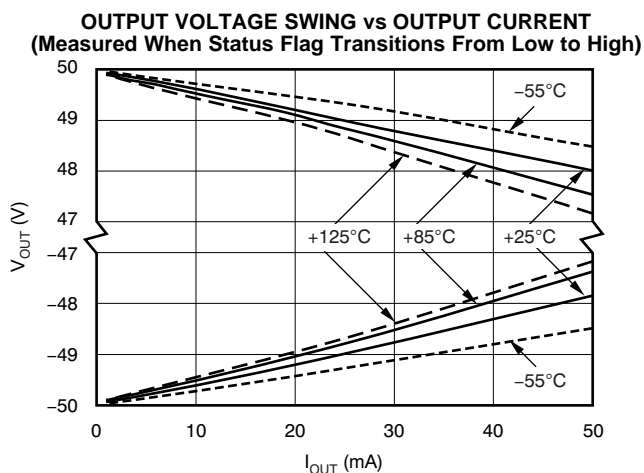
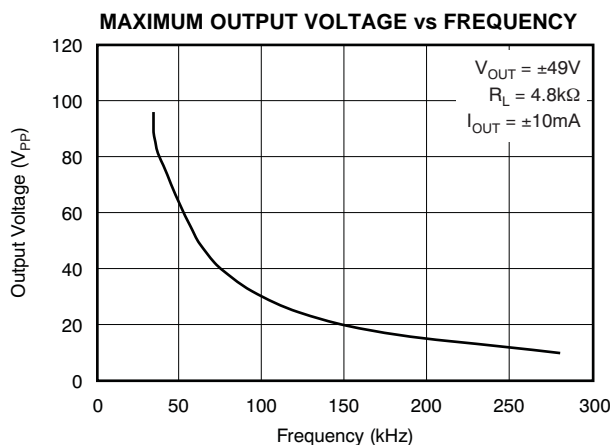
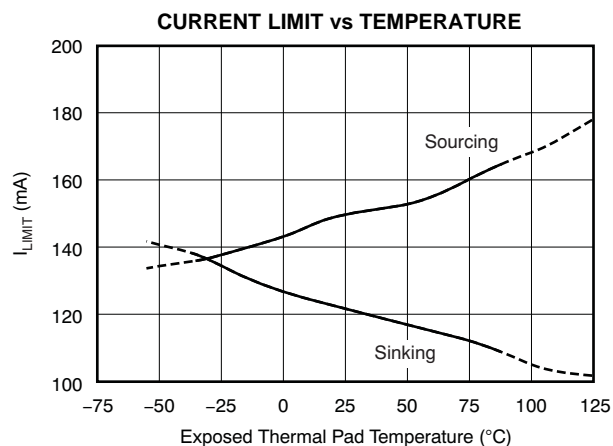

Figure 11.
Figure 12.
Figure 24.
(5) See Typical Characteristic curves.(6) See typical characteristic curve, *Maximum Output Voltage vs Frequency* (Figure 12).(7) See the Applications Information section, Settling Time.(8) Supplies reduced to allow closer swing to rails due to test equipment limitations. See typical characteristic curve *Total Harmonic Distortion + Noise vs Temperature* (Figure 30 and Figure 31) for additional power levels.(9) See typical characteristic curve, *Output Voltage Swing vs Output Current* (Figure 11).(10) Measured using low-frequency (<10Hz) $\pm 49V$ square wave. See typical characteristic curve, *Current Limit vs Temperature* (Figure 24).